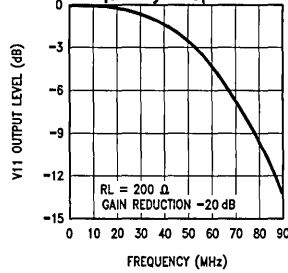

FIGURE 3
The IF amplifier noise figure (NF) as a function of gain reduction is shown in *Figure 3*. The contribution of IF NF to the overall system NF depends on the amount of gain ahead of the IF in the mixer and IF filter.